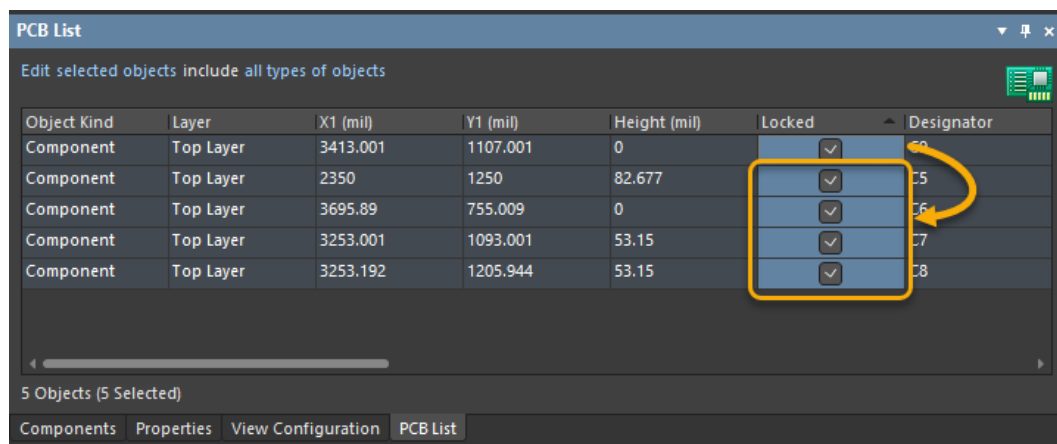

Figure 17. Copy & Paste to quickly change multiple rows in the PCB List panel at once
49. Use the **Ctrl+V** keys to paste the locked property as shown in Figure 17 above.